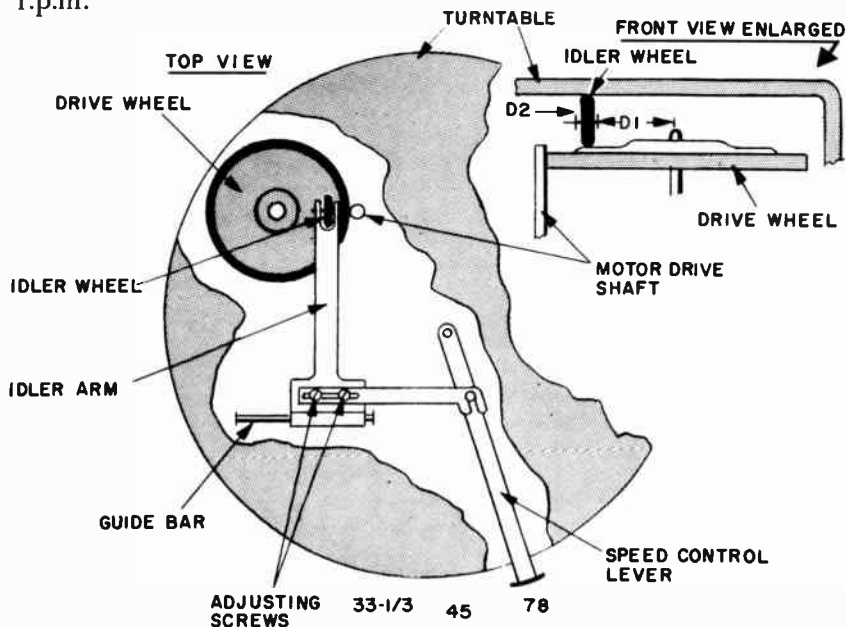

Fig. 314. Continuously-variable drive assembly shown in 78 r.p.m. position. Speed adjustment with stroboscope disc is described in the text.
A drive assembly of this type is pictured in Fig. 314. As the illustration shows, the drive wheel is rather large and is rim-driven
by the motor drive shaft. Contrary to other drive methods, though, the turntable is not driven at its rim. Instead, the top surface of the drive wheel is coupled, by means of a small idler wheel, to the underside of the turntable. Therefore, the biggest determining factors of the reduction ratio are the diameter of the drive wheel at the position of the idler wheel and the diameter of the turntable at the position of the idler wheel. If we set the speed-control lever at 78 r.p.m. the idler wheel will move to the position shown in Fig. 314. As the drive shaft turns the drive wheel, only diameter D1 is coupled by the idler wheel to diameter D2 of the turntable. This particular ratio would result in a turntable speed of 78 r.p.m.
7. Without changing the position of the drive and idler wheels, loosen the speed-control lever adjustment screws (Fig. 314).